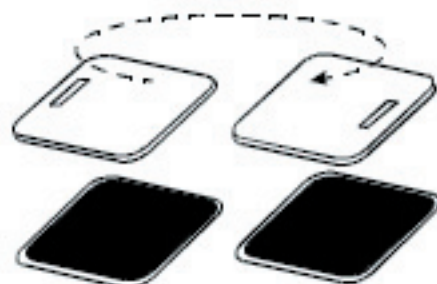

Fig. 2-20
1. Place a large towel or soft cloth (A) on top of the dryer.
2. Open the dryer door and remove the bottom screws from the cabinet side of the hinge (B).
10. Turn the outer door panel 180° so the handle is on the side where the hinges were just removed. (Fig. 2-20)